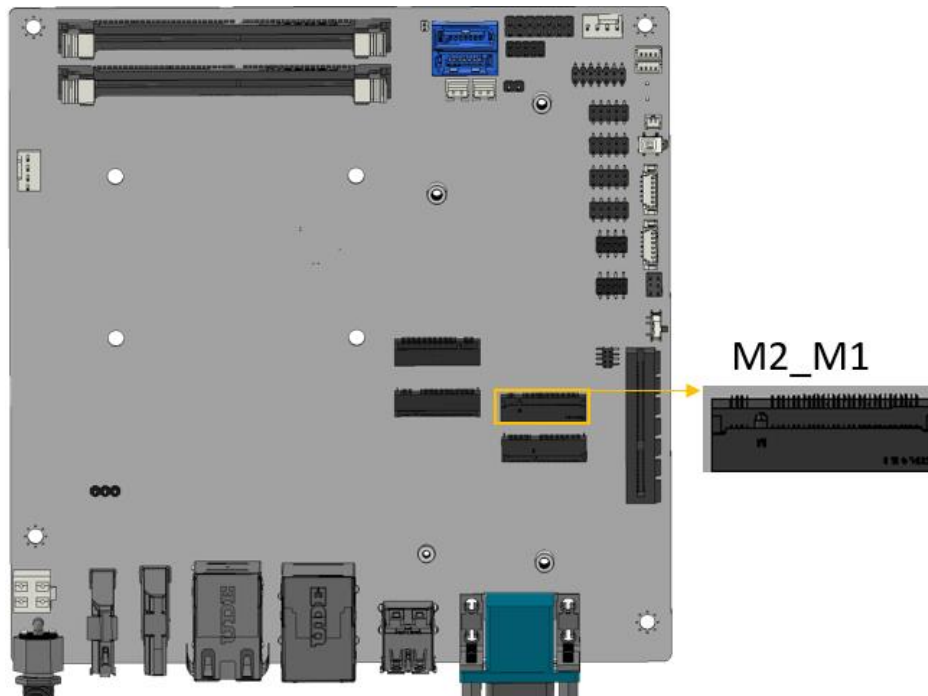

Figure 3-24: M.2 M-key Slot Location
- CN Location:** See Figure 3-24